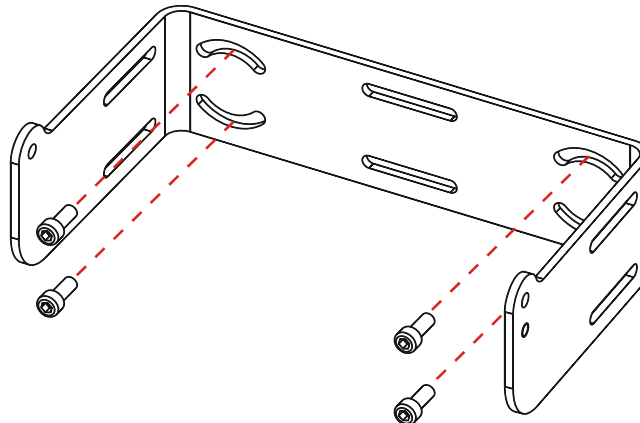

Figure 5 – Mounting the bracket on the reading station frame
- 1 Mount the bracket on the reading station frame: the slots on the bracket will help obtain the best positioning. When working in environments characterized by strong vibrations, set the screws as close as possible to the bracket edges, see Figure 5.